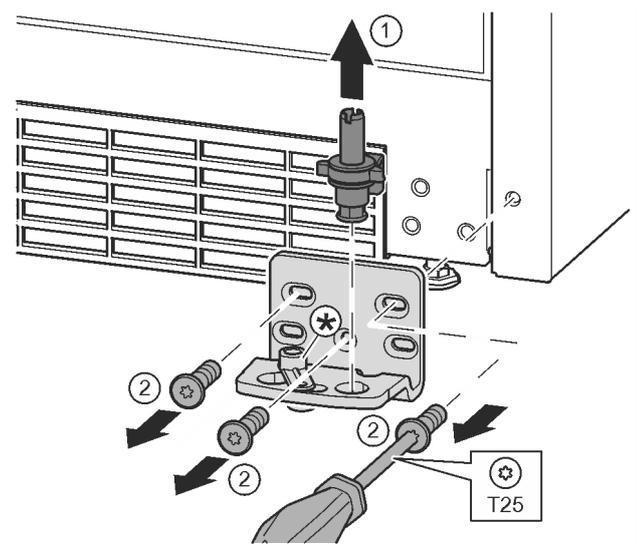

Fig. 16
- ▶ Lift the bearing pin completely upward and remove. Fig. 16 (1)
- ▶ Undo the screws with a T25 screwdriver and remove the bearing bracket Fig. 16 (2)